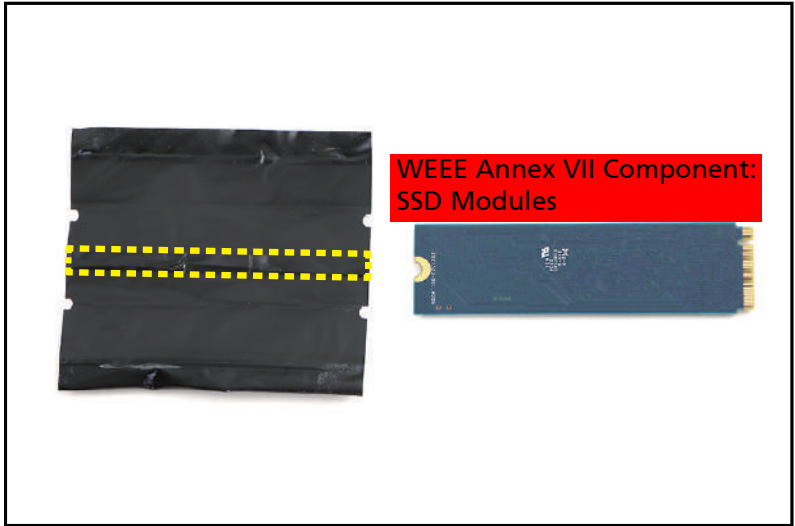

Figure 3-23. SSD Module Removal
- 6. Detach the SSD module from the adhesive graphite strip (marked with yellow dashed line) as shown in Figure 3-23.